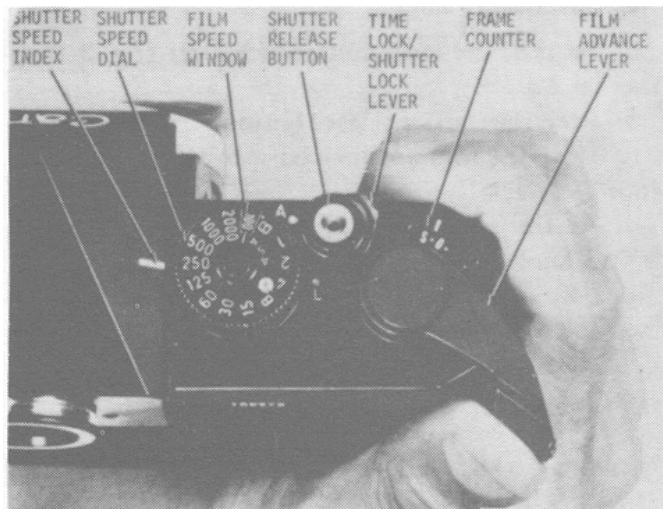

FIGURE 1-28. Winding film.
Step 2. Check to see that film speed dial setting matches rating of film loaded in camera (figure 1-28).